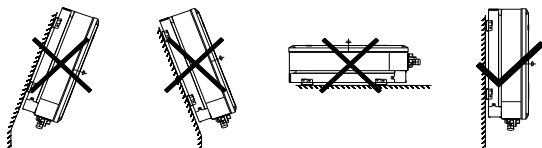

Figure 5-2 Installation position
(1) The environment temperature is between -25°C and 60°C .
(2) The installation surface is perpendicular to the horizontal line. Refer to the Figure 5-2.